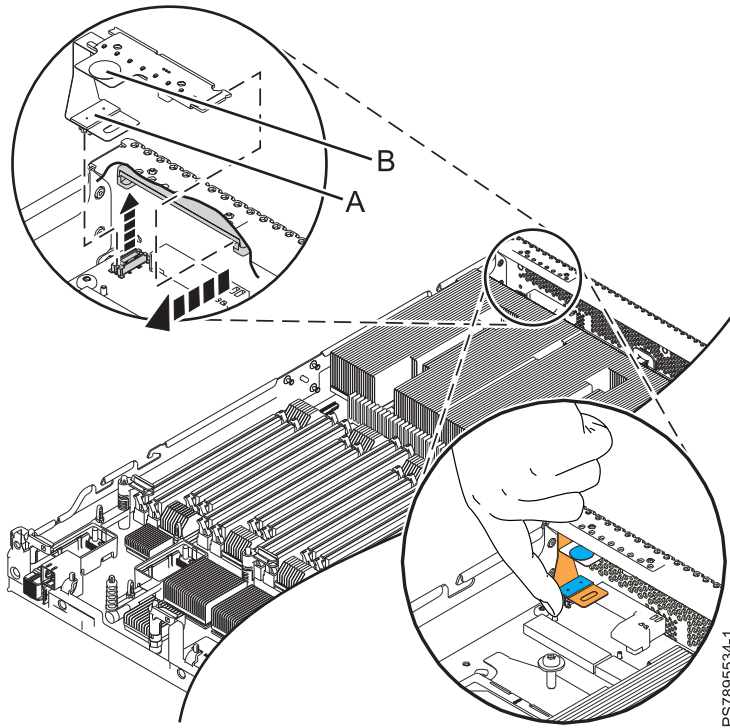

Figure 40. Removing the light path diagnostics panel
To remove the light path diagnostics panel, which is shown in Figure 40, complete the following steps.
6. Disconnect the cable **(A)** from the system board. For best maneuverability, orient yourself in front of the compute node. Use your index finger to reach under the cable connection and pull it up, as shown in Figure 40 on page 81.